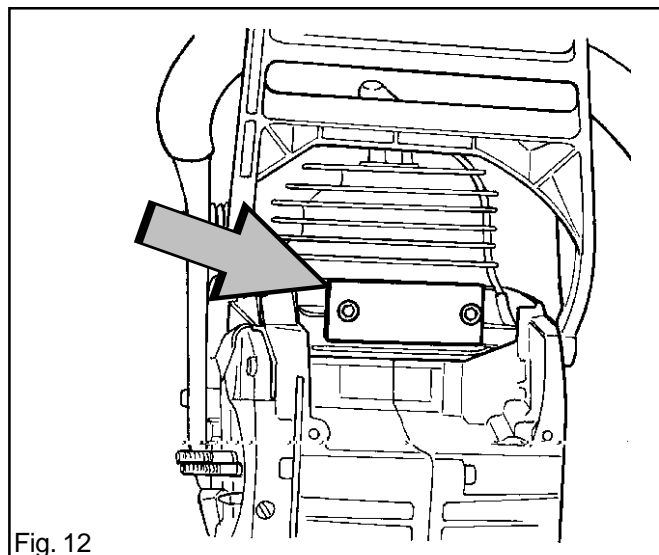
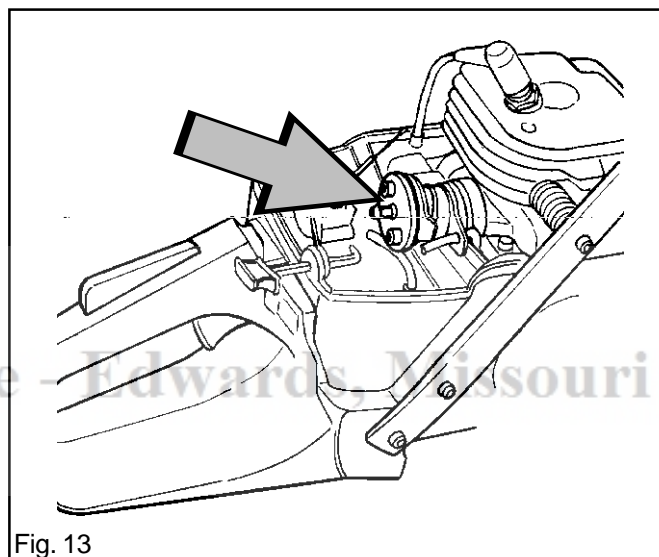

Fig. 12
Fig. 13
1. Remove the support ring in the intake manifold. Fit cover plate 502 54 05-01 with M4x15 mm bolt on the intake manifold. See fig.13. Fit cover plate 502 71 39-01 with M6x20 mm on the exhaust port. See fig.12.